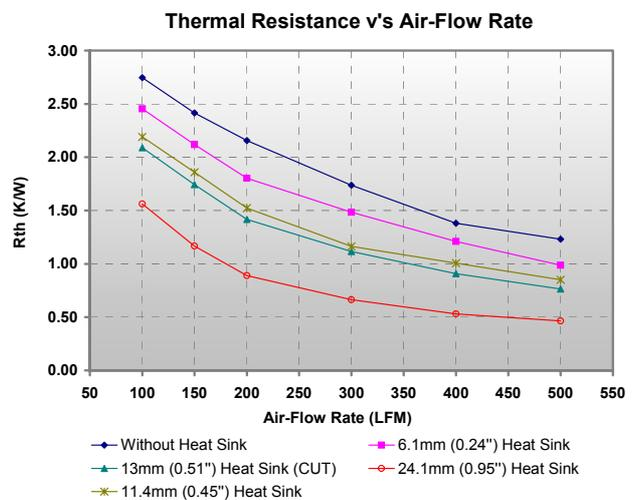

Figure 53: Thermal resistances at laminar airflow
- 3 The value of  $R_{th_{BP-A}}$  allows to determine the required airflow or heat sink using Figure 53.
- 1 The thermal resistance for a given airflow and heat sink can be found in figure 53